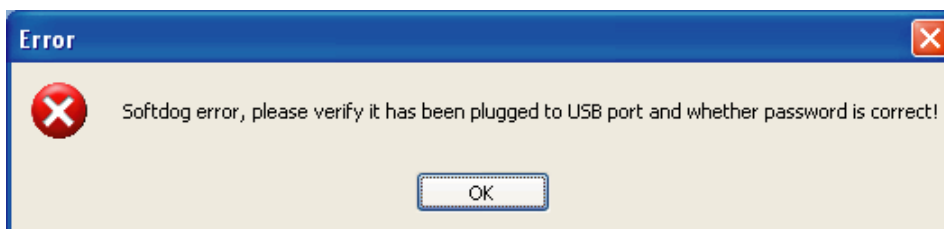

Fig.4-1
4) When login on, you must insert the Softdog provided by manufacturer to the computer, otherwise, cannot be login the system and the window as Fig.4-1 ,and the Softdog Error would show as follows.